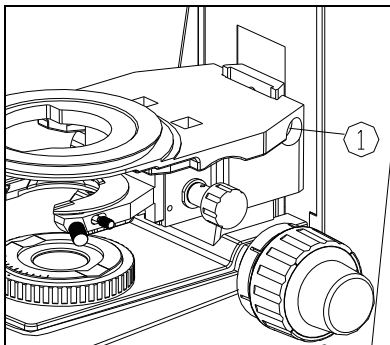

Fig. 19
(1) Move the stage to the lowest, and then remove the stage from the microscope.
(2) Loosen the stage bracket lock screw ①, and then remove the stage bracket. (See Fig. 19)